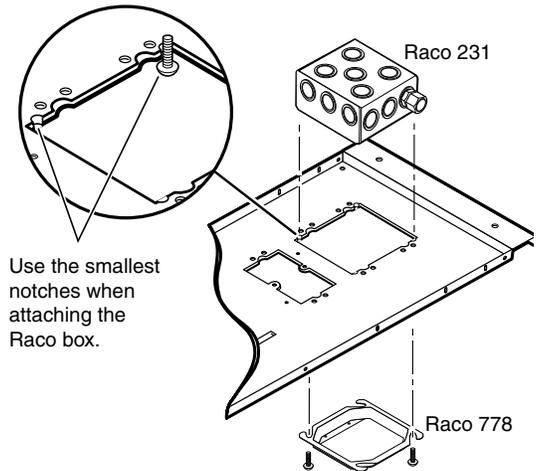

Figure 5 — Install Racco box and plaster ring
- a. Attach the box to the plate, using the smallest notches in opposite corners of the cut-out (see figure 5). Do not tighten the screws fully at this time.